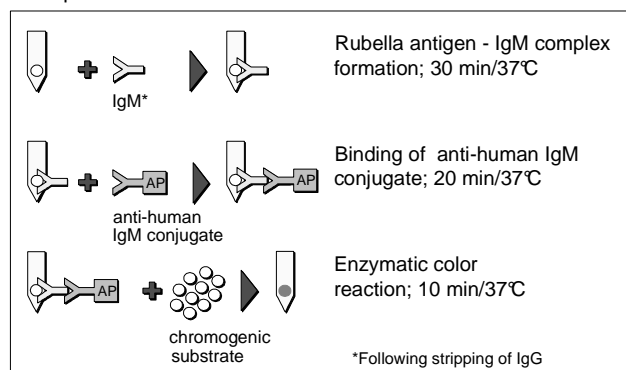

Figure 1. Principle of the Test
At the outset of the test, serum or plasma specimens are pretreated with anti-human IgG (stripping), in order to prevent interferences as a result of competition by anti-rubella IgG, and by rheumatoid factor. Pretreated specimens are further incubated with the solution in the wells of row A of the Developing Plate. The Card is then inserted in the wells of row A. Anti-rubella IgM, if present in the specimens, will specifically bind to the rubella antigens on the lower spot on the teeth of the Card (Figure 1). Unbound components are washed away in row B. In row C, anti-rubella IgM captured on the lower spots of the teeth, and the human IgM on the upper spots (Internal Control), will react with alkaline phosphatase (AP)-labeled anti-human IgM antibodies. In the next two rows, unbound components are removed by washing. In row F, the bound alkaline phosphatase will react with chromogenic components. The results are visible as gray-blue spots on the surface of the teeth of the Card.